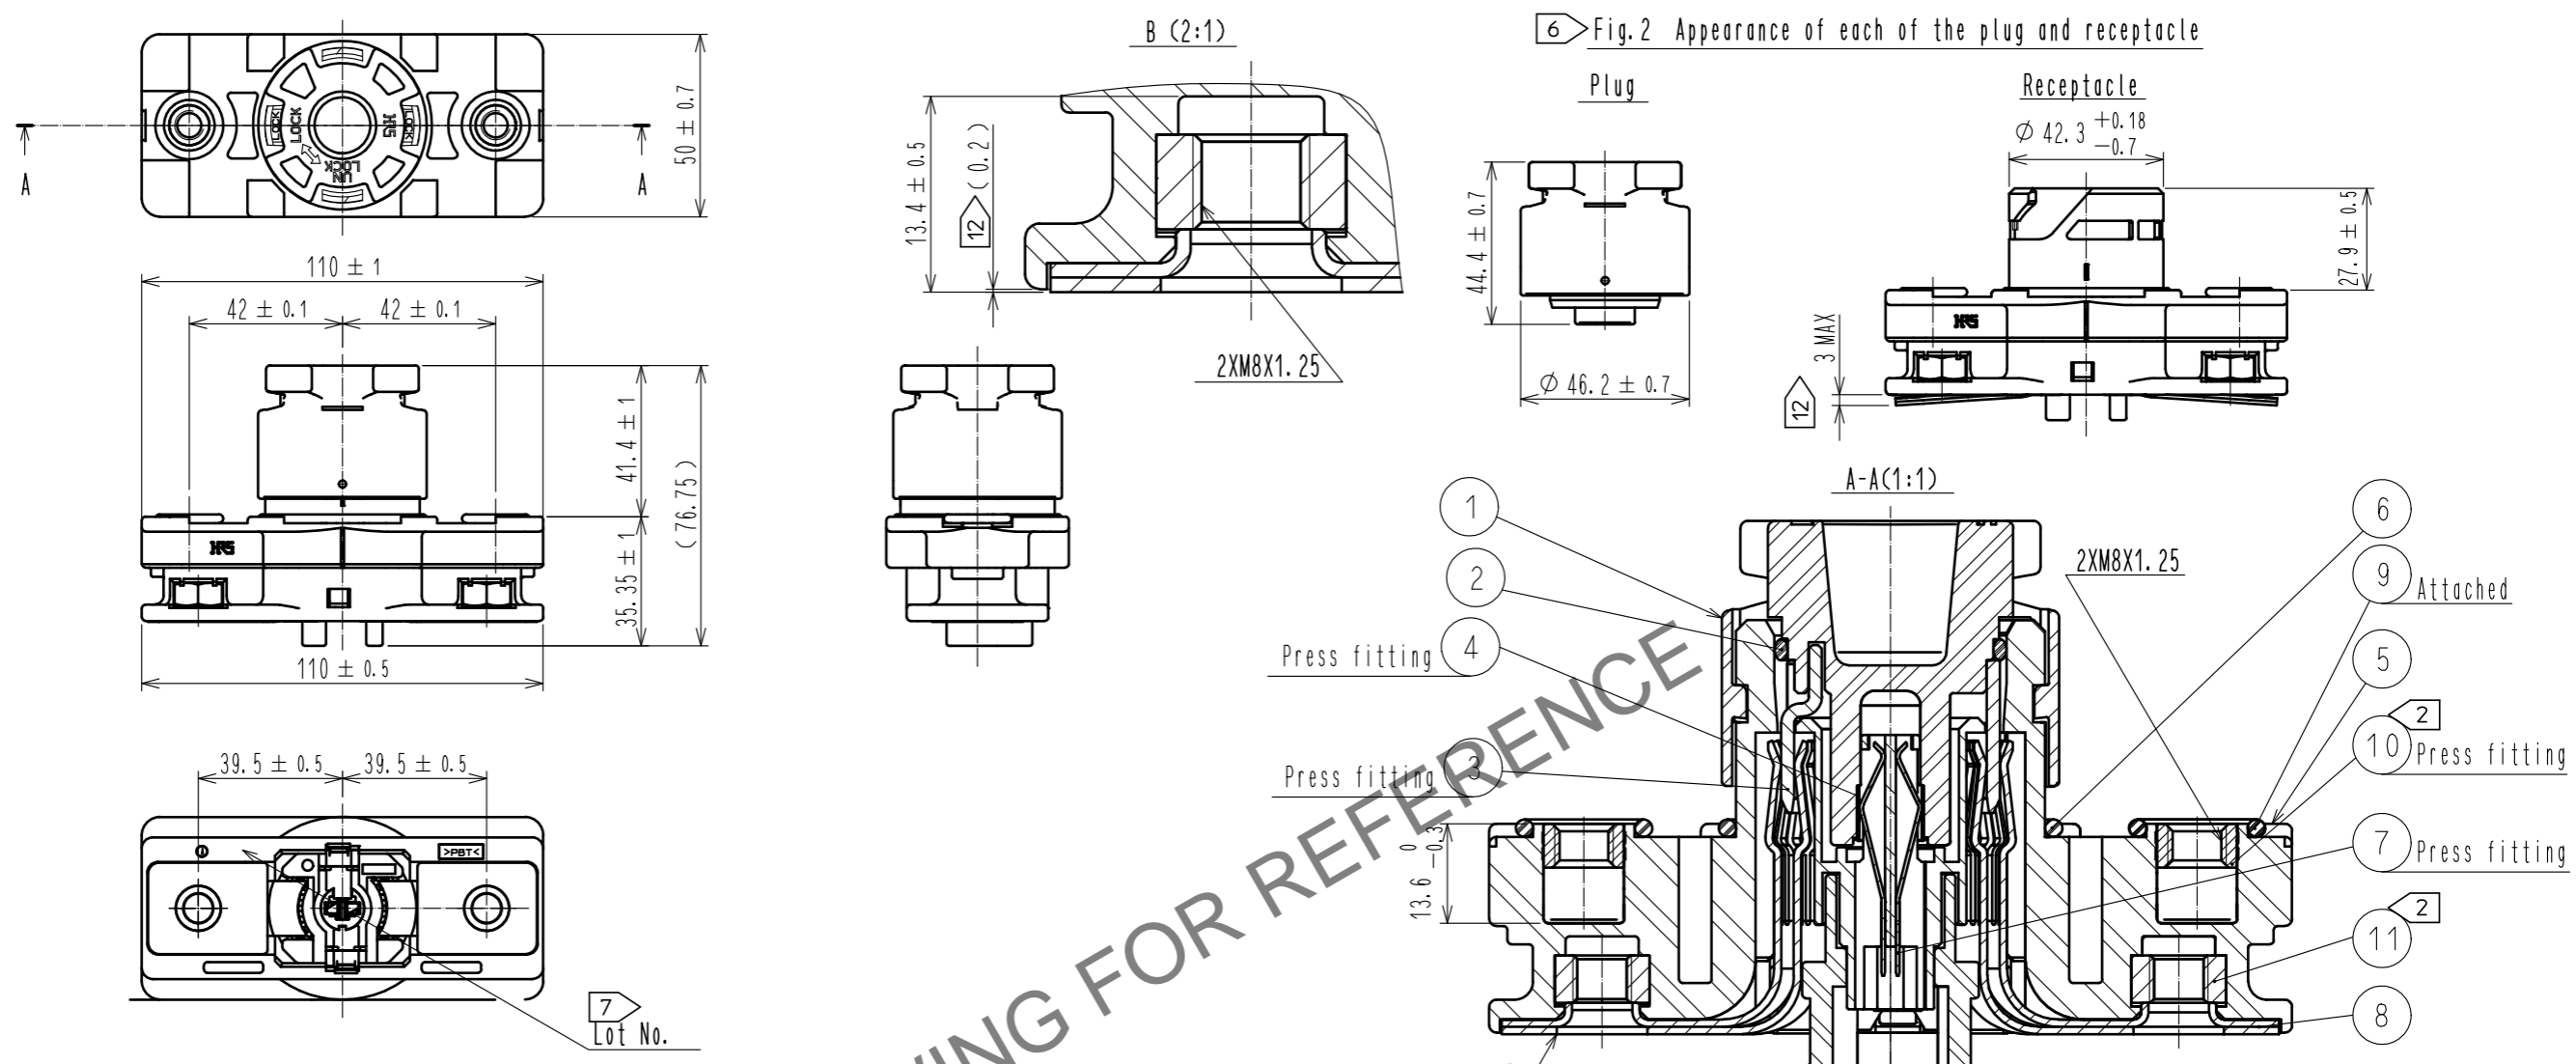

Fig.2 Appearance of each of the plug and receptacle
- 6 Appearance of each of the plug and receptacle are shown in Fig.2
12 Female contact Ref. No. ⑧ is loose before the bolt is attached to Ref. No. ⑩, and the female contact is movable as shown in Fig. 2, but stabilized to the receptacle after the screw fix. Therefore the looseness is eliminated for the use and does not affect its performance. (0.2) shown in Fig. ⑧ is the state when the bolt is tightened.